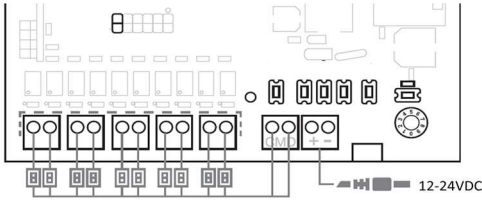
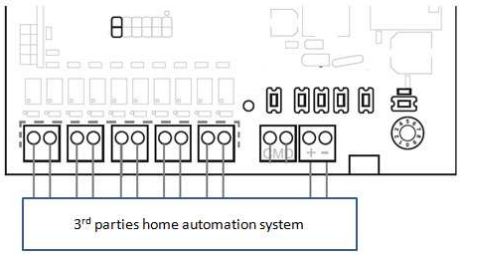

Fig.2 Switches direct connect to DCT2RTS interface wiring
Fig.3 Home automation system directs connect to DCT2RTS interface wiring
- 1.3. Wire either switches (fig.2) or dry-contact relay outputs (fig.3) to the indicated DCT terminals at the bottom of the DCT2RTS Interface.